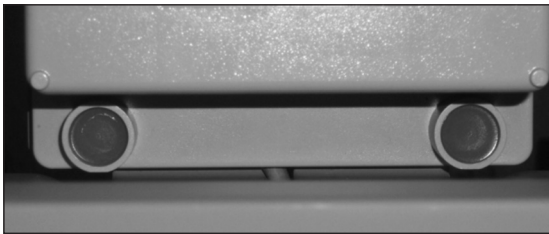

Figure 7.27 - Red tamper seals installed
- Once all hardware is tightened the red tamper seals (supplied) can be installed on the Endpoint Module as shown at Figure 7.27.